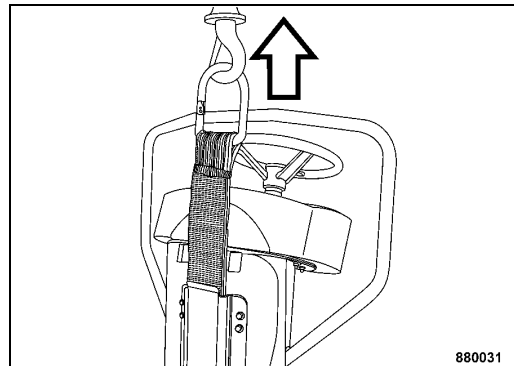

Fig. 113
- To lift the machine pull out the lifting eye from the bracket and hook it into the lifting gear (Fig. 113).